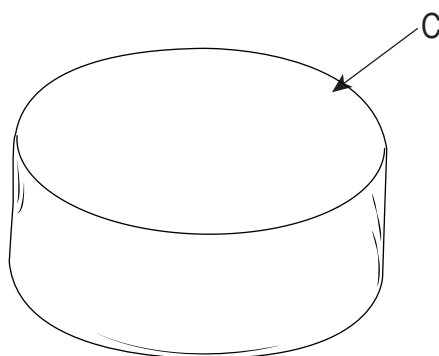

Figure 5
5. Cover the fire pit with the outdoor weather cover (C) when not in use to protect it from the elements or when fire pit is cool COMPLETELY after the use, (see Figure 5).